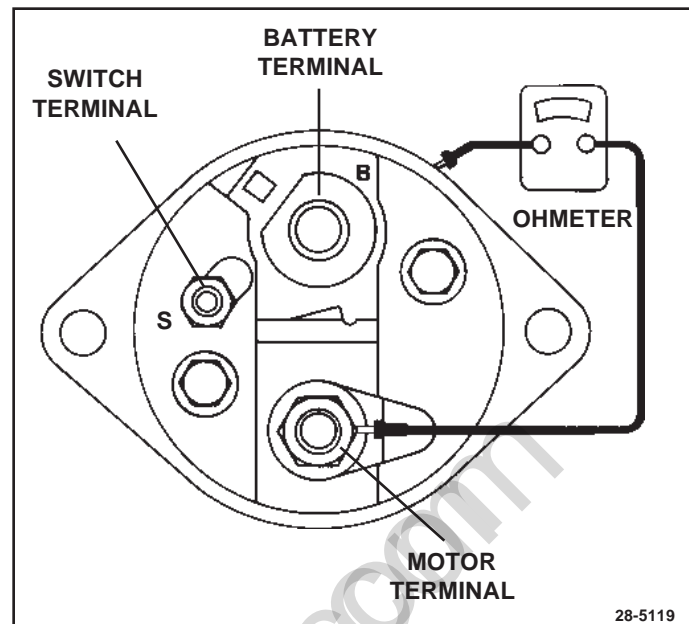

Figure 12. Solenoid Terminals
Figures 12 and 13
1. Using a suitable ohmmeter, check windings of solenoid assembly (1) for continuity as follows:
- Check resistance of solenoid pull-in and hold-in windings in series by measuring resistance between motor terminal (see Figure 12) and solenoid case. Resistance should be approximately 0.95 ohms for 12-volt starters and approximately 1.75 ohms for 24-volt starters.
2. Check armature (13) as follows for shorts, opens or grounds using suitable test equipment and instruments (test lamp must be 110 volts or less):
3. Check frame and field assembly (19) for grounds or opens using test lamp (110 volts max.) or ohmmeter, as follows: